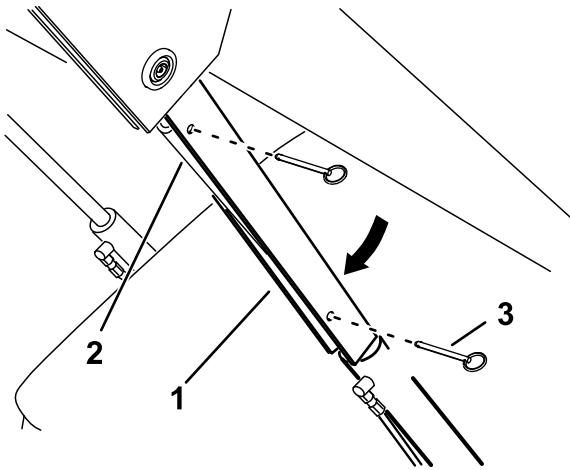

Figure 28
5. Slide the cylinder lock over the lift-cylinder rod (Figure 28).